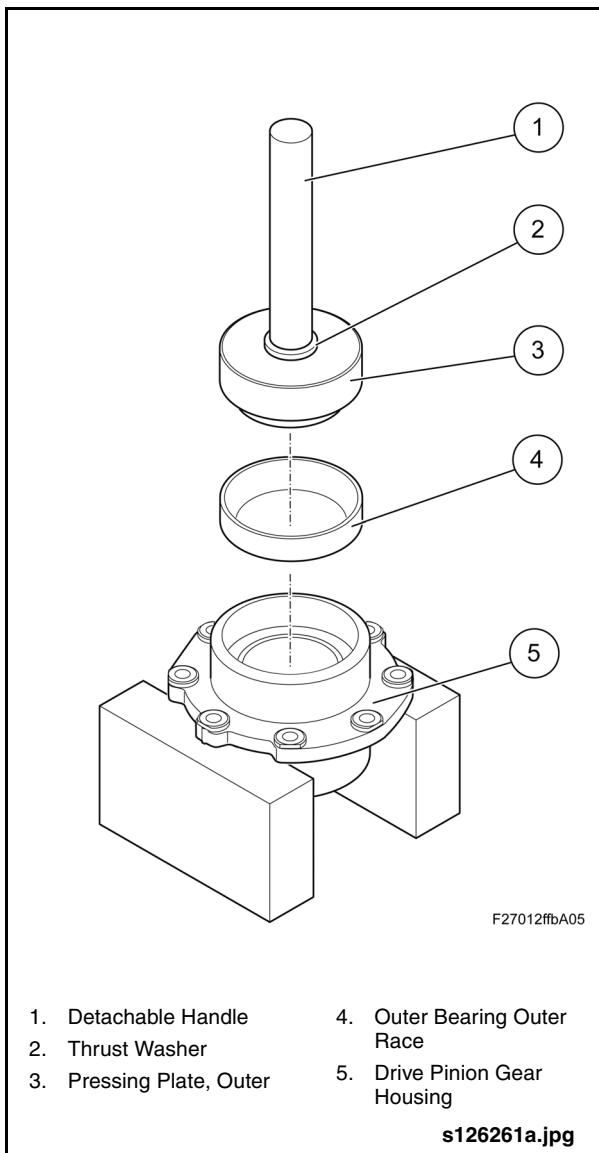

Fig. 2-96: Installing Outer Bearing Outer Race
1. Assemble the Outer Pressing Plate with the Detachable Handle and Thrust Washer (Items 18, 33 & 15 from Special Tools List). See "Fig. 2-96: Installing Outer Bearing Outer Race" on page 76.